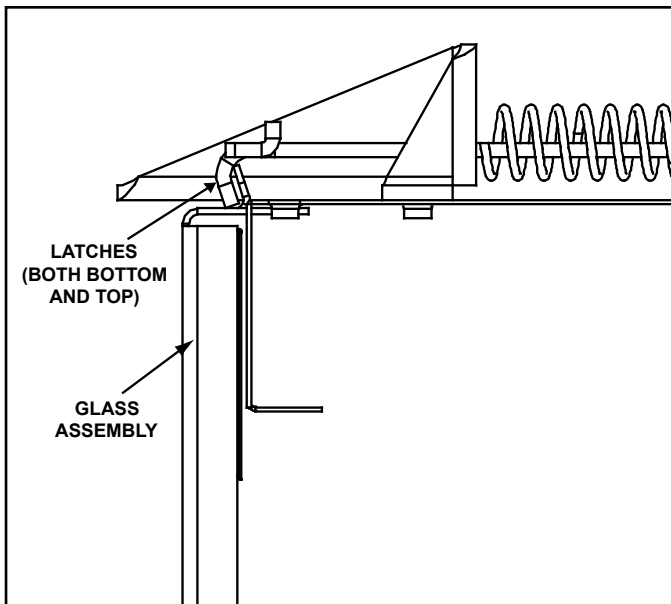

Figure 4.1 Fixed Glass Assembly
- Pull the four glass assembly latches out of the groove on the glass frame. Remove glass door from the appliance. See Figure 4.1.
- Replace the glass door on the appliance. Pull out and latch the four glass assembly latches into the groove on the glass frame. See Figure 4.1.